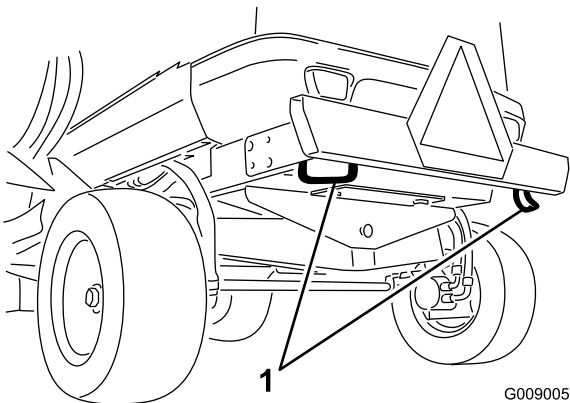

Figure 40
1. Front tie down (2)
- The rear bumper (2 places) (Figure 40).